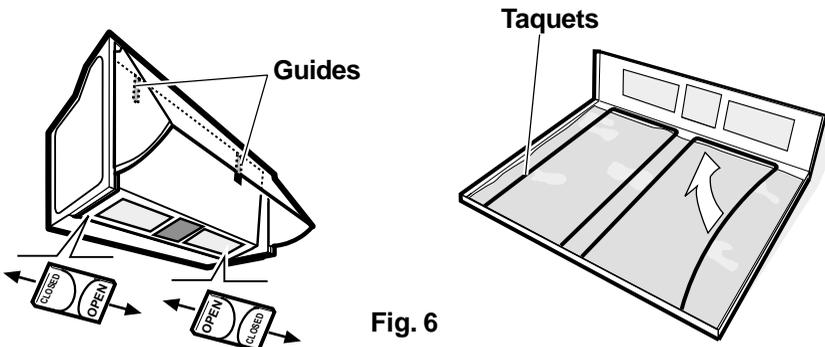

Fig. 6
- Move the two sliders towards the centre (in the "OPEN" direction) and release the grille downwards. **Fig. 6.**
Remove the stops to take out the filter. **Fig. 6.**
- Remove the grid. **Fig. 6.**